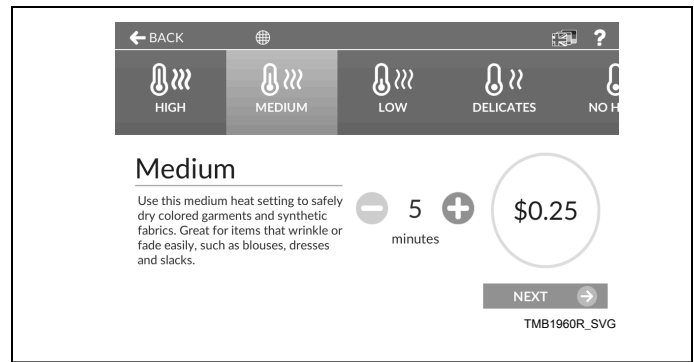

Figure 23
2. Select a cycle from the cycle options menu *Cycle Preset Page*. Select the desired time, then touch NEXT (refer to Figure 23).